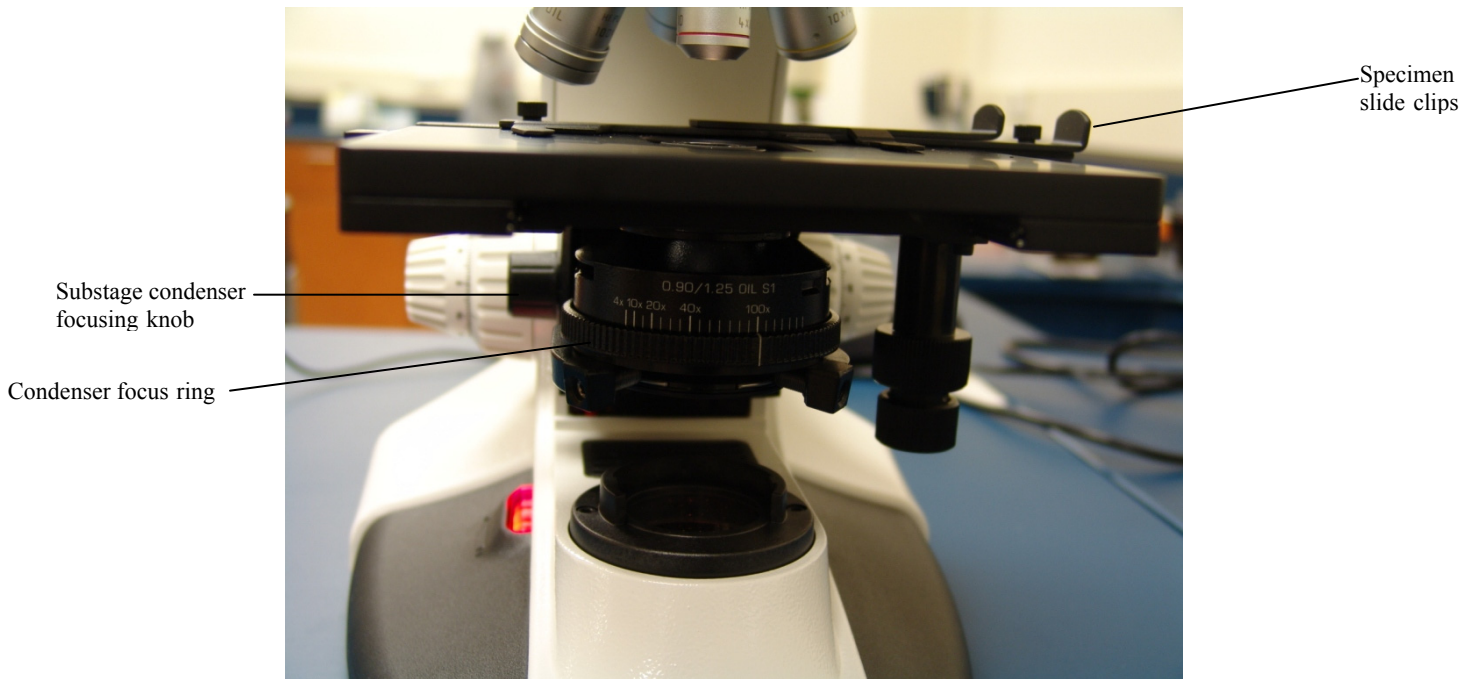

Figure 3: Leica DME microscope front component view
- 8.1.6. Fully open the aperture diaphragm of the condenser by rotating the ring to the right 40X. Refer to Figure 3.
- 8.1.7. Using the substage condenser focusing knob, raise the condenser to the top of its excursion. Refer to Figure 3.
- 8.1.10. Open the specimen slide clips. Refer to Figure 3.
- 9.3. Figure 3: Leica DME microscope front component view